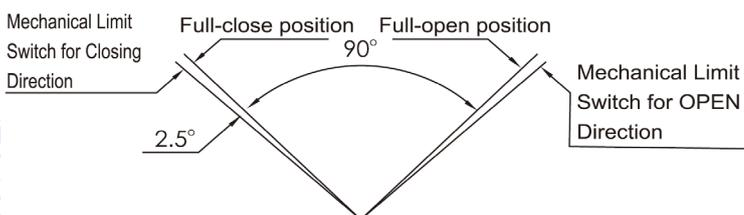

Fig. 8
- Unless otherwise specified, the actuator stroke is factory-set to 90° between the fully closed and fully open positions. After the actuator is installed on the valve, the stroke angle must be readjusted if the valve's fully closed and fully open positions do not match those of the actuator. The mechanical limit stops must be adjusted according to the requirements shown in Fig. 8.